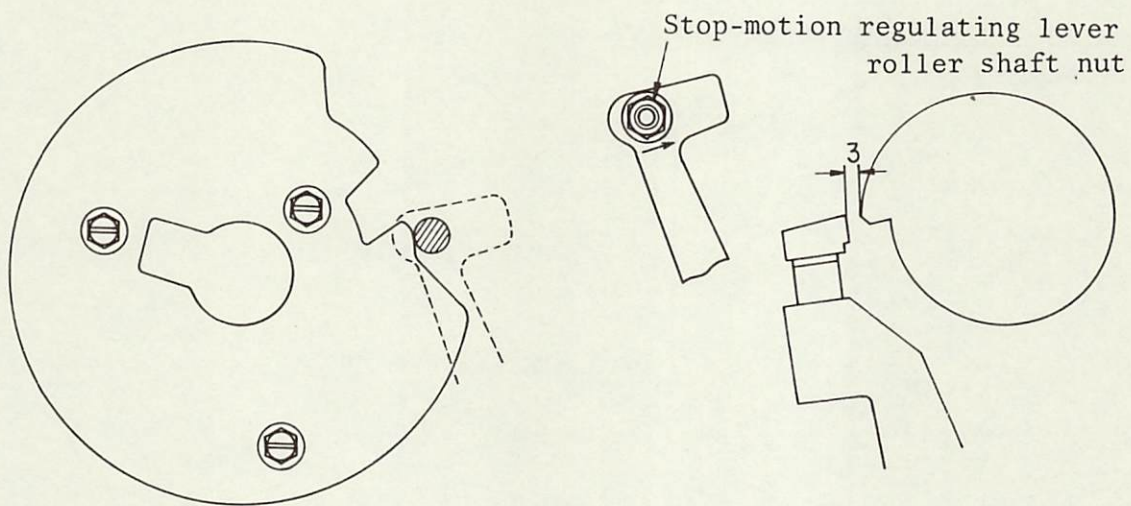

Fig.46
All of above related dimensions are carefully checked at the time of assembling to prevent malfunctions but should any malfunctions occur in the open market due to inadvertant inadequate dimensions, exchange the stop-motion lever(B26012800A0). The cam arm releasing plate is set to the stop-motion lever by screw, knock pins and adhesive agent to produce correct dimensions, so it is very difficult to take it out. Also, when the knife activates within the low speed zone and an emergency measure must be taken, adjust the clearance between the stop link rod latch from 3mm(1/8") to 4mm(5/32"), as shown in Fig.46. This is an emergency measure to prevent the knife from moving but consider this purely as an emergency measure only.
- \* As shown in Fig.46, the correct position of the stop-motion lever at the time of low speed sewing zone, the clearance between the stop-motion cam and the stop latch should be 3mm(1/8"). When this relative position is wrong, such malfunctions as inadequate thread trimming, inadequate movement of speed decreasing components and inadequate action of the safety device, etc. occur. Therefore, verify the correct position of this stop-motion lever.